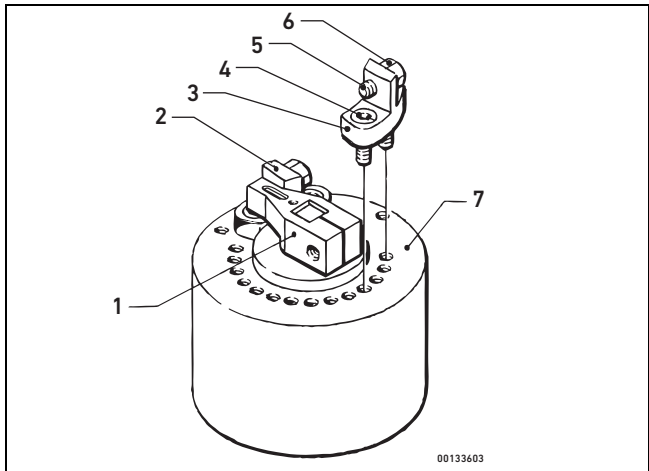

Fig. 5: Fitting the adjustable stop
The Drehantrieb size 2 to 5 has an adjustable stop that consists of a swivel arm, fitted on the shaft at the back end of the Drehantrieb, and two stoppers that are adjusted with screws. The swivel arm (1) and the reference point stopper (2) are fitted at delivery. The angle setting stopper (3) is fitted at installation, as shown in Fig. 5.
1. Fit the angle setting stopper (3) in the desired position, in intervals of 15°, using the screws supplied (4).
2. Fit the fine-adjust screw (5) and lock nut (6) in the angle setting stopper.